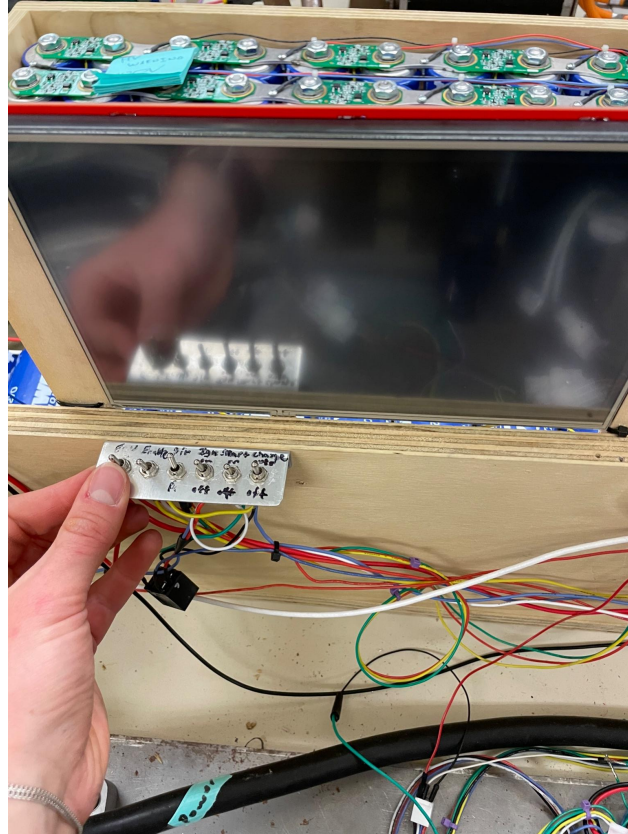

Figure 3. Switch Box
4. Switch the ON/OFF switch shown in figure 3 below (the leftmost switch) to the ON position. You should see the Nextion display turn on at this point.